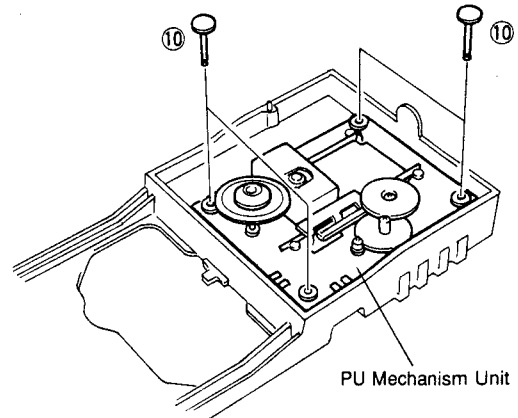

Fig. 10
- b. Pull out 4 Pins (⑩) and then remove the PU Mechanism Unit as shown in Fig. 10.